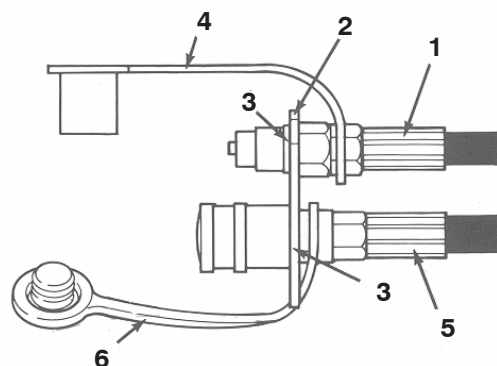

Figure 15
2. Secure the hose assembly to the female coupler (Fig. 15).
3. Slide the loop end of the dust cap (Fig. 15) over the end of the hydraulic hose coming from the rear valve fitting. Install the male nipple to the hose end.
4. Insert the end of the hose thru the top hole in the coupler bracket (Fig. 15). Secure the hose assembly to the bracket with a retaining ring.